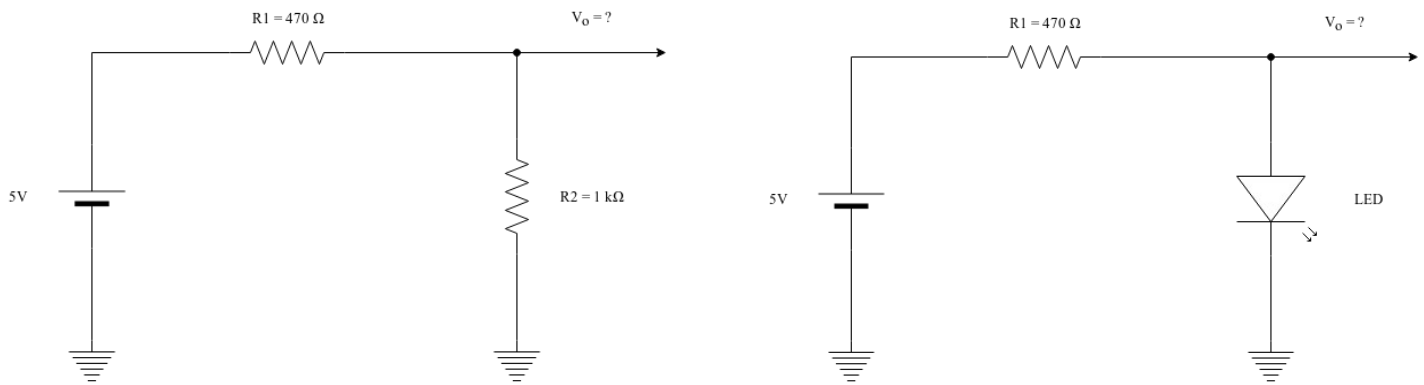

Figure 1: Simple voltage divider circuit (left) and an LED circuit (right)
1. The current passing through the voltage divider on the left of Figure 1 was calculated by dividing the input voltage by the sum of the resistor values, as the resistors were in series.  $V_o$  was calculated using the calculated current.
2. Using a breadboard and a 5V power supply, we physically recreated the voltage divider circuit to the left of Figure 1.